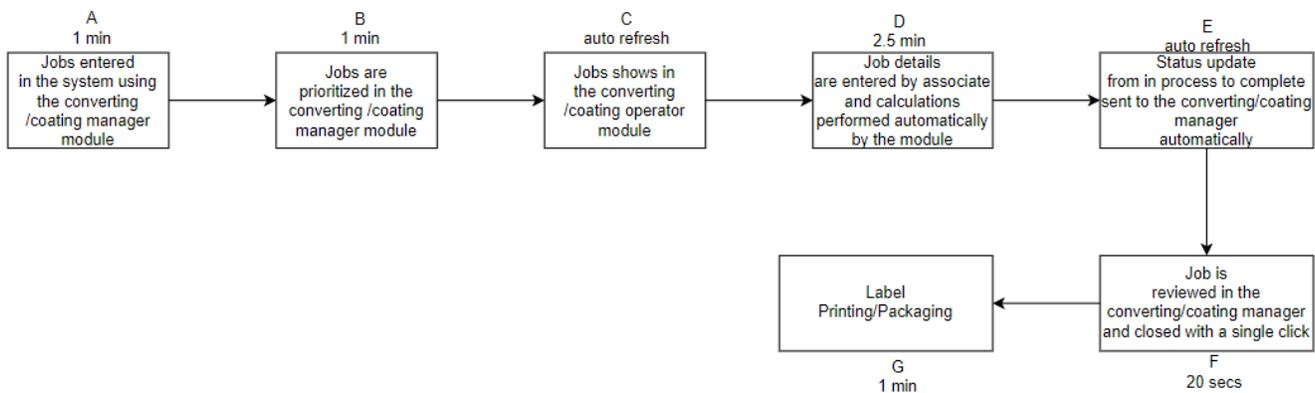

Figure 6: Flow diagram future state process flow shop floor automation
The Scheduling Manager was used by the department supervisors/scheduling team to enter, schedule and prioritize the jobs based on the customer request. The operators used the Converting Operator module to enter the operational process data. Using these modules helped to eliminate/simplify a majority of the manual steps (A, B, C, D, E and F) as described in Figure 6. In addition, the calculations that were performed manually by manufacturing associates were automatically performed by the programs/modules and reduced the overall time spent on the job sheets by 50%. The total time to process the job sheet in the manufacturing floor is reduced from 27.6 mins to 5.83 mins improving the overall efficiency by 79%.
- Led to overall improve improvement in sq yds/hr by 18% (Figure 6)